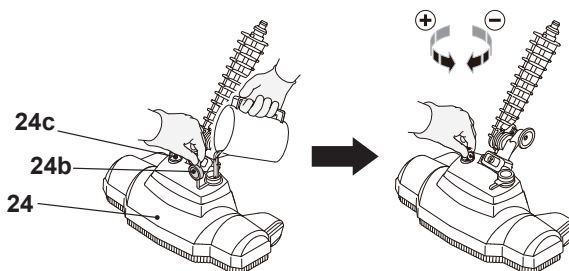

Fig. 14
9. Open the cap (24b) and fill in suitable detergent and close the cap afterwards (Fig. 14).